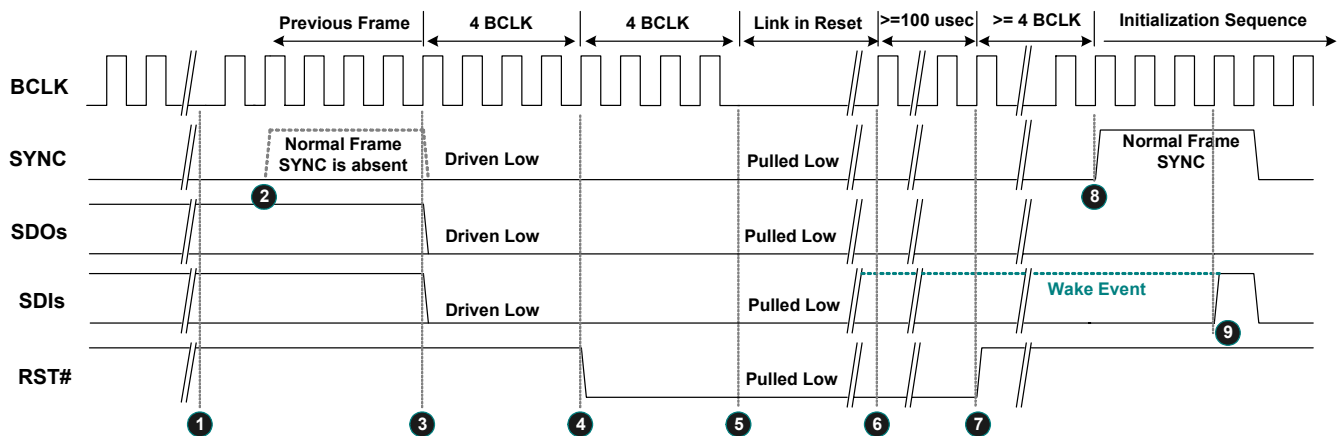

Figure 13. Link Reset Timing
3. Software initiates power management sequences. Figure 13, shows the ‘Link Reset’ timing including the ‘Enter’ sequence (❶~❺) and ‘Exit’ sequence (❻~❾)